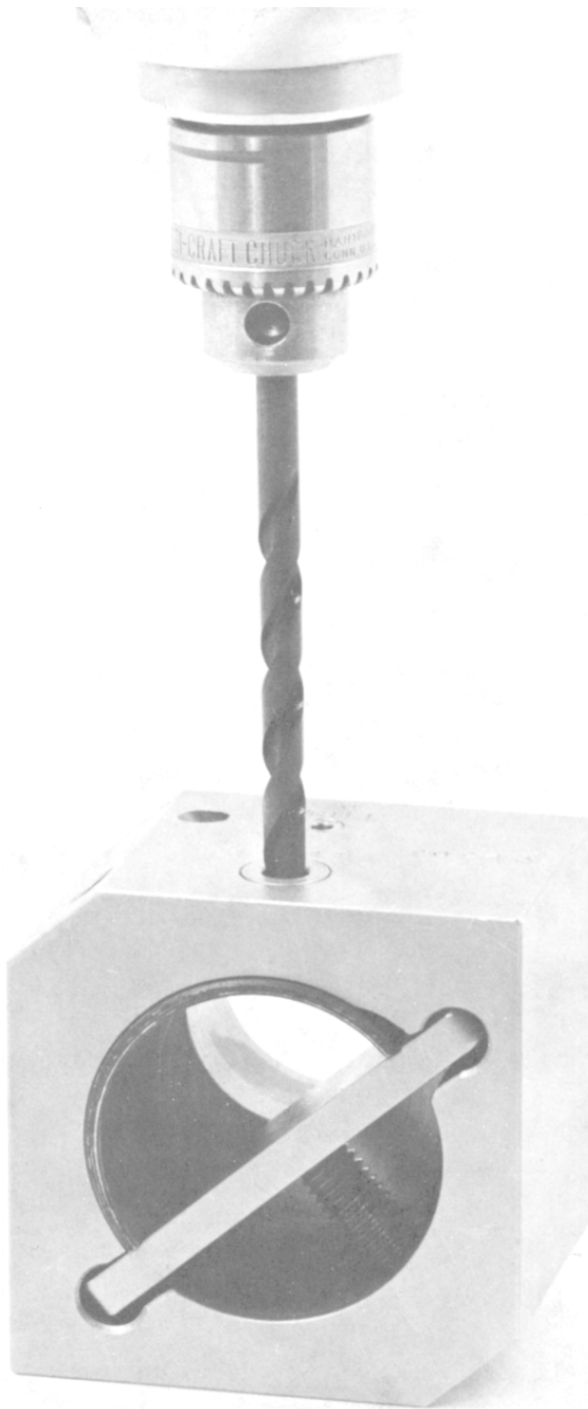

Figure 24. Drilling Hole in Bearing
4. Put fixture in vise to hold securely. Drill hole in bearing with 1/4 inch drill the bushing in fixture. (See Figure 24.)